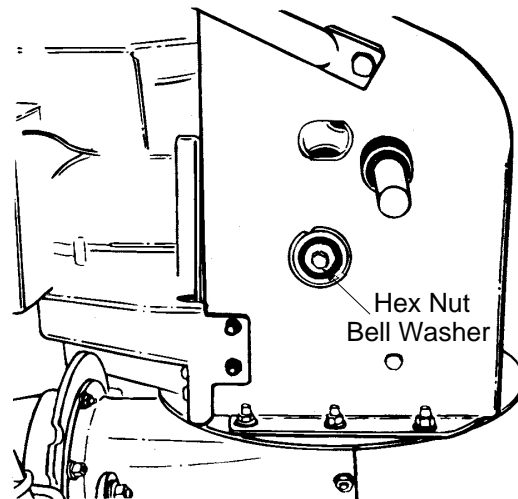

Figure 29
5. Using a 7/8" wrench to hold the shaft, loosen, but do not completely remove, the hex nut and bell washer on the left end of gear shaft. See Figure 29.